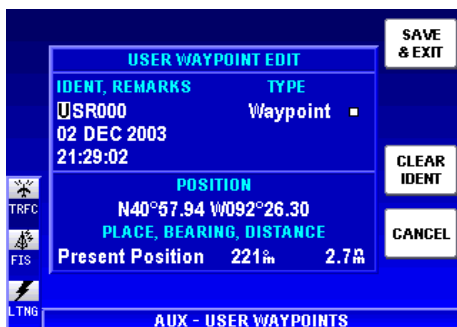

Figure 1-70
4. To enter a waypoint identifier other than the system default, turn the Rotary Knob one increment and the first character will be highlighted as in Figure 1-70. If the desired identifier is less than six characters, press the **CLEAR IDENT** Softkey to clear the **IDENT** field. Otherwise, turn the Rotary Knob to enter the desired first character. Use the Joystick to go to the next field and again use the Rotary Knob to enter the next desired character and so on until complete.